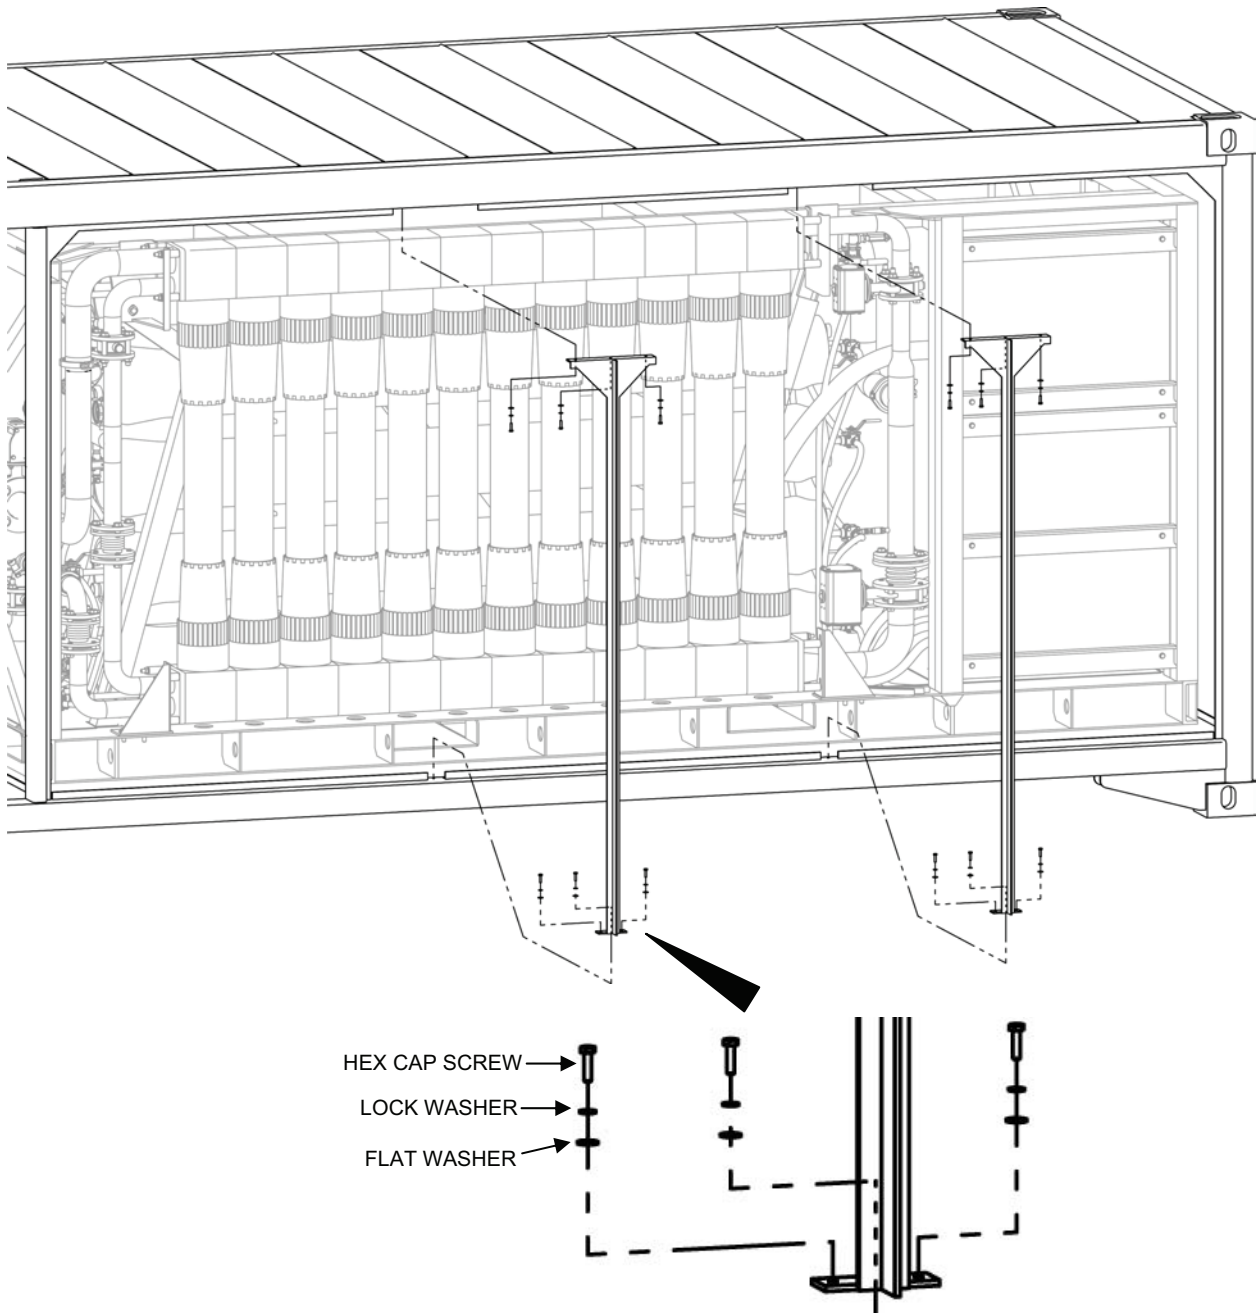

Figure 4. A-TWPS Vertical Flat Rack Brace Removal.
4. Remove the two vertical flat rack braces (3 hex cap screws, 3 lock washers, and 3 flat washers at the top and bottom of both braces) that are located in front of the MF filter assembly (A-TWPS only) (see Figure 4).